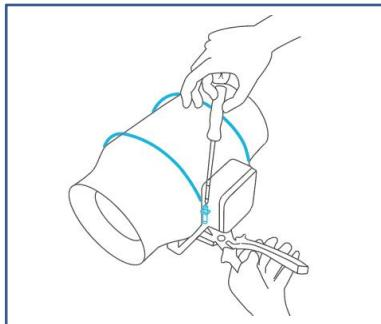

Fig.1.
- 1、Unscrew and loosen the metal rings using a Phillips screwdriver and pliers. See the(Fig.1.)